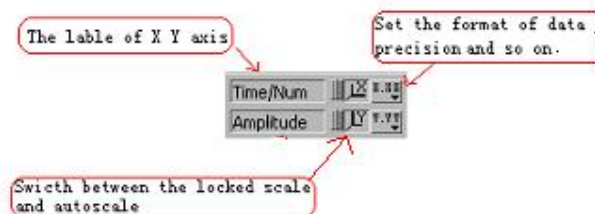

Figure 25
7. X , Y scale legend;(See Figure 25)